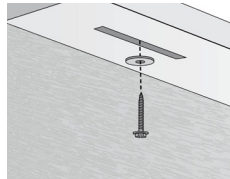

Figure 3: Through Head Rail
2. Holding the shade in its installation position, use the installation screws and washers provided to screw through slots in the head rail directly into the mounting surface to hold the shade in place. [Figure 3].